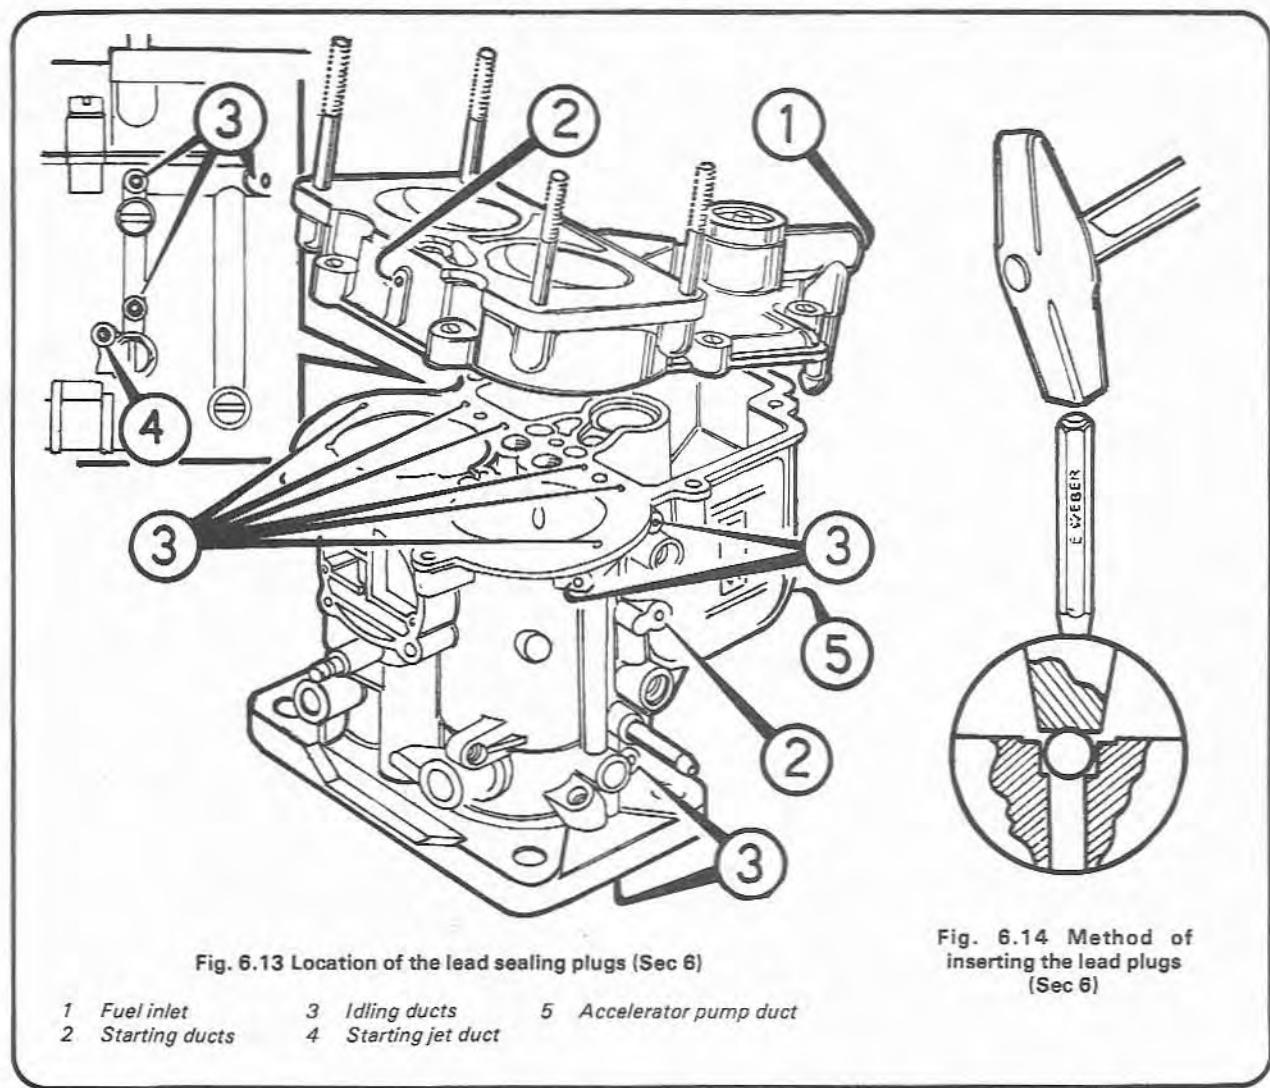

Fig. 6.13 Location of the lead sealing plugs (Sec 6)
7 Check the internal channels of the carburetor body (77) and cover (1), for blockage by injecting fuel with a syringe and observing that it emerges freely from the particular channel being tested. If any are blocked, the lead plugs as shown in Fig. 6.13 must be drilled out and the channels cleared and checked with the special Weber tool.